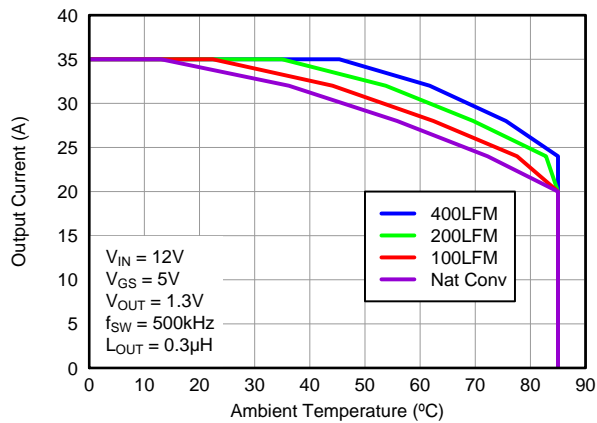
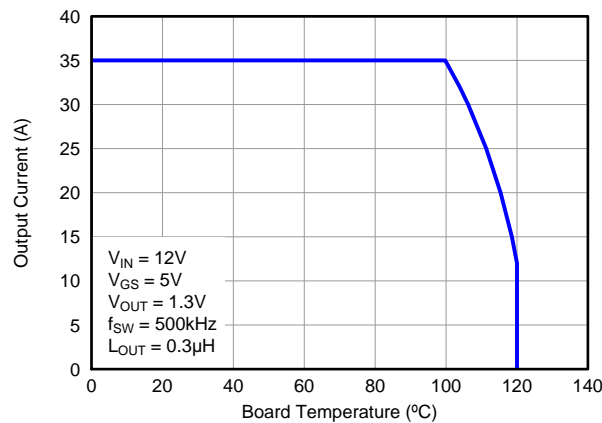

Figure 3. Safe Operating Area – PCB Vertical Mount(1)
Figure 5. Typical Safe Operating Area(1)
The SOA curves in the CSD87351Q5D data sheet provides guidance on the temperature boundaries within an operating system by incorporating the thermal resistance and system power loss. Figure 3 to Figure 5 outline the temperature and airflow conditions required for a given load current. The area under the curve dictates the safe operating area. All the curves are based on measurements made on a PCB design with dimensions of 4" (W) x 3.5" (L) x 0.062" (T) and 6 copper layers of 1 oz. copper thickness